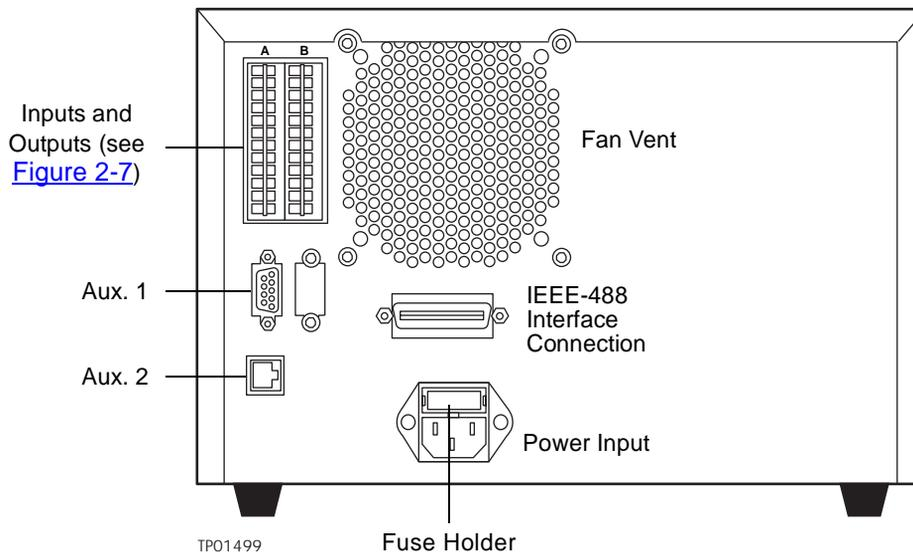

Figure 2-5 2487 Detector Rear Panel Electrical Connections
1. Plug the receptacle end of the power cord into the ac input connector on the rear panel of the detector (Figure 2-5).
The 2487 Detector connects to other Waters components through rear panel electrical connections (see Figure 2-5).
- **IEEE-488 interface bus** – The IEEE-488 bus connection, on the rear panel of the detector (see Figure 2-5), allows remote control and direct data acquisition from Waters Millennium^{®32} and MassLynx[™] workstations, as well as remote control using the Waters Alliance[®] and PowerLine[™] compatible solvent delivery systems.
The rear panel of the 2487 Detector (see Figure 2-5) provides two analog connectors and an IEEE-488 communications port for operating the detector with external devices.